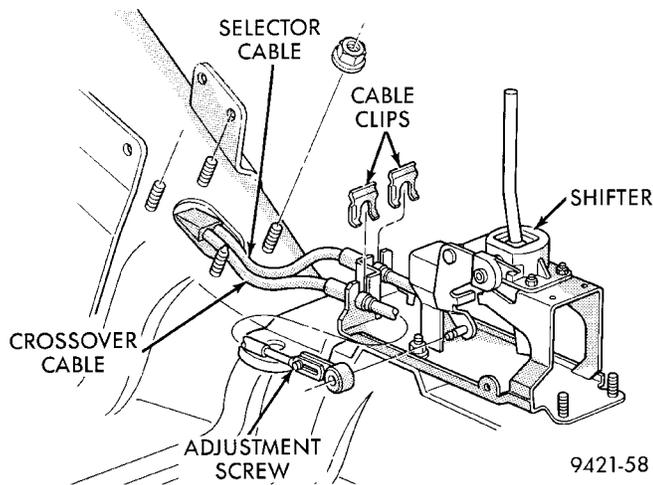

**Fig. 14 Grommet Retaining Screw (Underbody)**
(10) Disconnect shift cables from shifter. Pry with equal force on both sides of shifter cable isolator bushings to avoid damaging bushings.
(11) Lift vehicle on hoist. Remove self-tapping screw securing grommet plate to underbody heat shield and floor pan (Fig. 14).
(12) Detach cables from cable support clip in tunnel above exhaust catalyst.